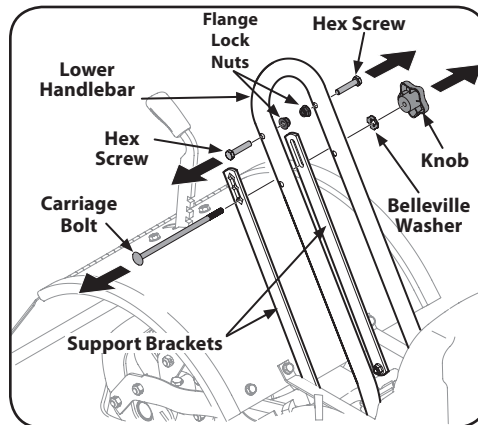

Figure 2-1
1. Remove two hex screws (5/16-18 x 1.50), two flange lock nuts (5/16-18), carriage bolt (5/16-18 x 6.75), belleville washer (.326 x .875 x .145) and knob (5/16-18) from the lower handlebar and support brackets. See Figure 2-1.